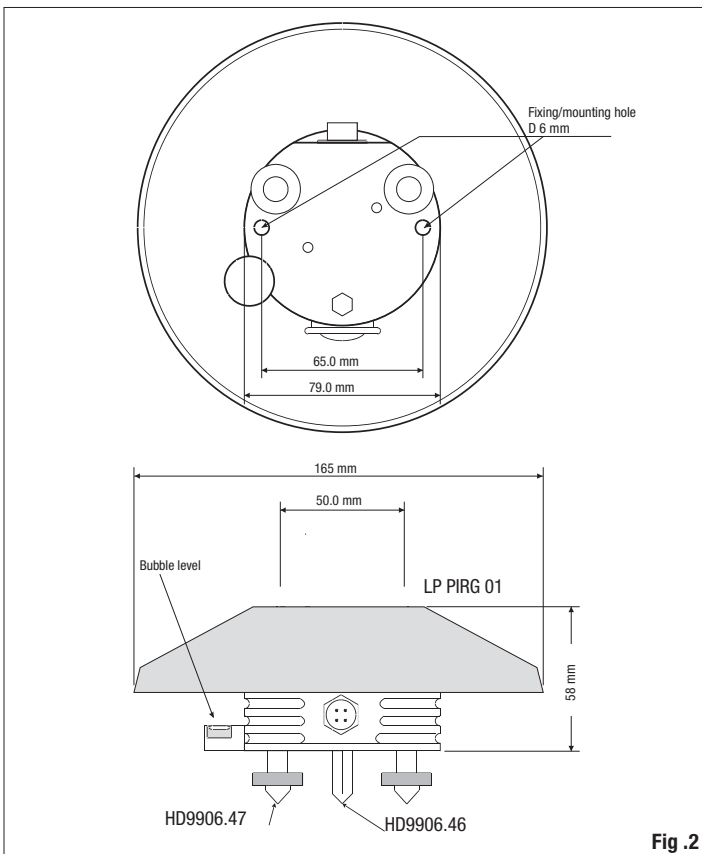

Fig. 2
- For an accurate horizontal positioning, the pyrometer LP PIRG 01 is equipped with a spirit level, which adjustment is by two screws with lock nut that allows changing the pyrometer inclination. The fixing on a flat base can be performed by using two 6mm diam. holes and 65 mm wheelbase. In order to access the holes, remove the screen and re-place it back after mounting, see figure 2.
- Dimensions: figure 2